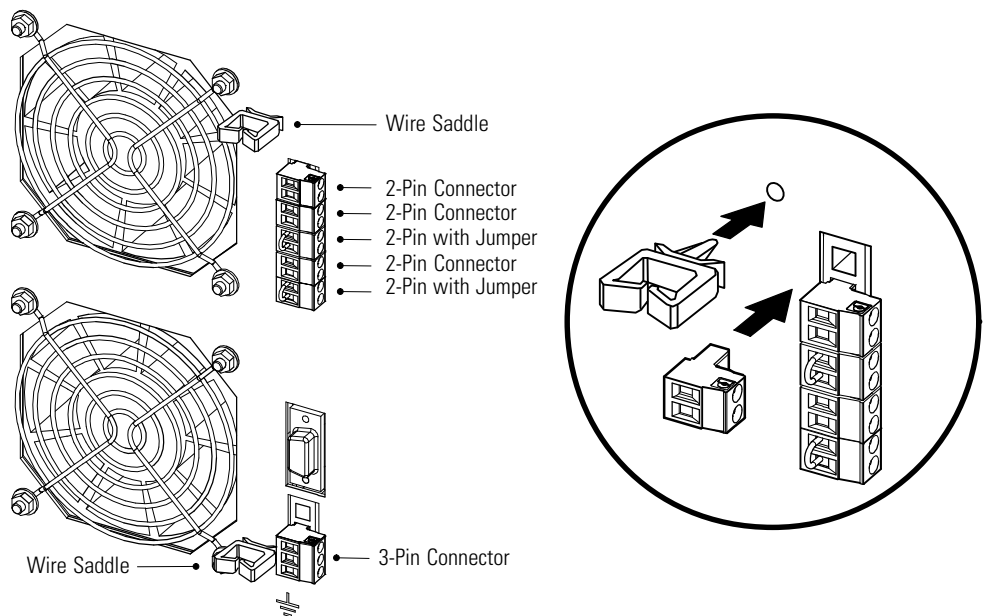

Figure 25. Installing the Communication Terminal Block Connectors
18. On the UPS rear panel, plug in the supplied communication terminal block connectors as shown in Figure 25.
19. **Optional but recommended.** Press the two supplied wire saddles into the holes on the rear panel, as shown in Figure 25. During wiring installation, secure any wires to the connectors within the saddles.